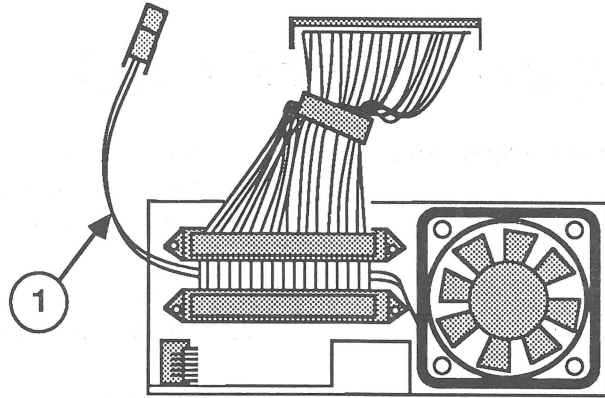

FIGURE 5
3. Lay the fan cable (Figure 5, #1) across the SCSI cable, between the two SCSI connectors. Push the upper cable connector through the opening in the frame. (Make sure the fan cable is between the SCSI cable and the fan frame and not pinched between the connector and the frame.)